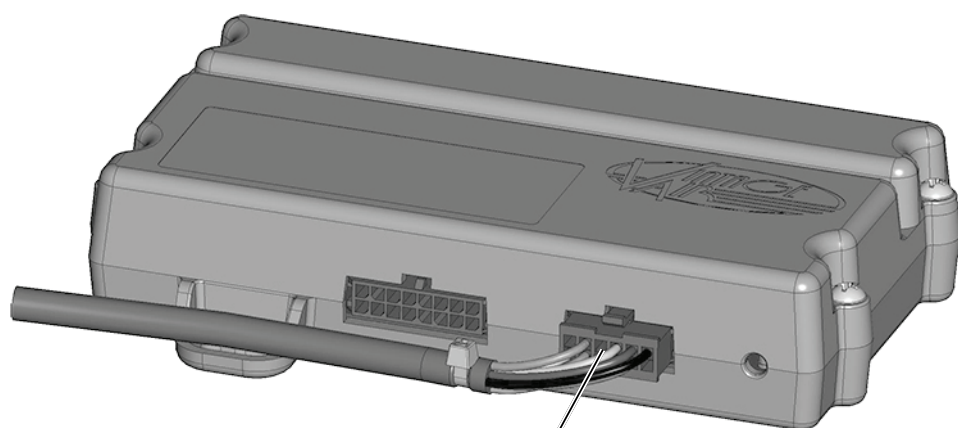

Figure 2
2. Connect the other end of the control harness into the ECU (See Figure 2, below).